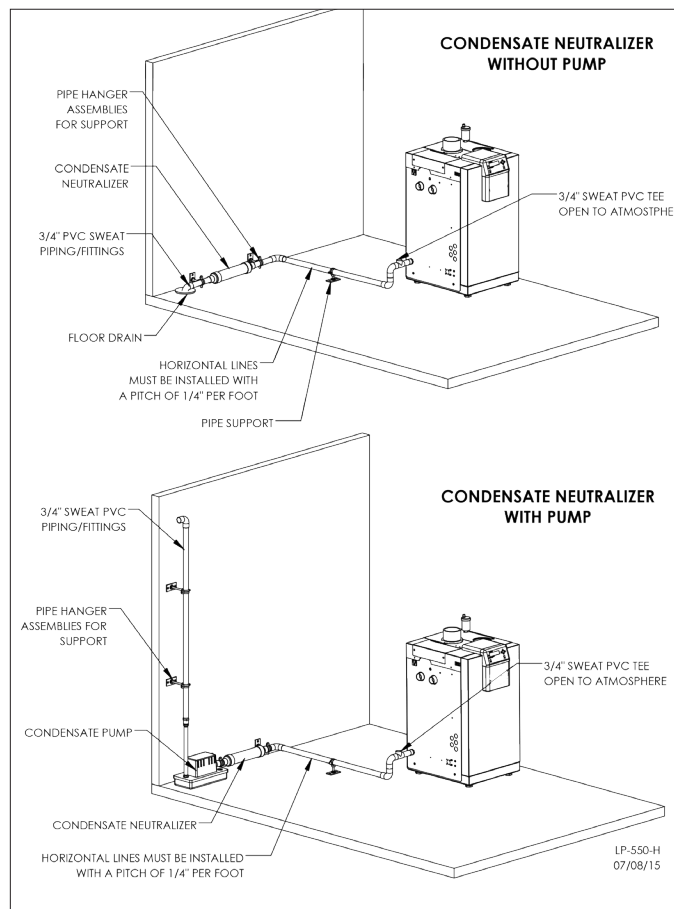

Figure 22 - Condensate Piping
8. Local building codes may require an in-line neutralizer to be installed (not included) to treat the condensate. See Figure 22. If required by local authorities, a condensate filter of lime crystals, marble, or phosphate chips will neutralize slightly acidic condensate (Part # 7450P-212 for 80/110/150/220/299/301 Models, Part # 7350P-611 for 399 Models). Follow all the installation instructions included with the neutralizer. If a neutralizer is installed, periodic replacement of the limestone (or neutralizing agent) will be required. The rate of depletion of the limestone varies with usage of the boiler. During the first year of boiler operation, check the neutralizer every few months for depletion.